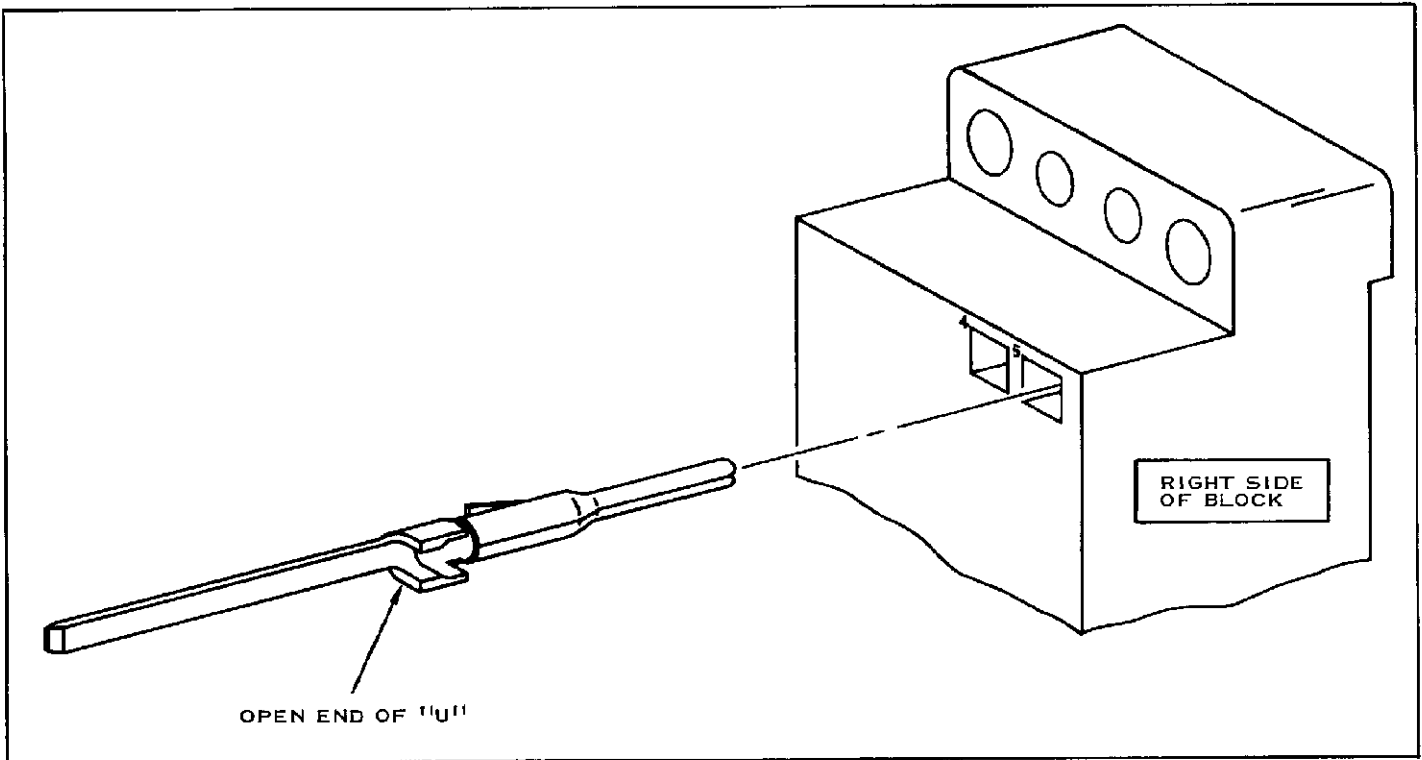

FIGURE 9
3. Insert Pins into the Male Block using A-MP Insertion Tool No. AA611080. The Pins enter the Block with the open end of the U facing the right side of the Block. See Figure 9.